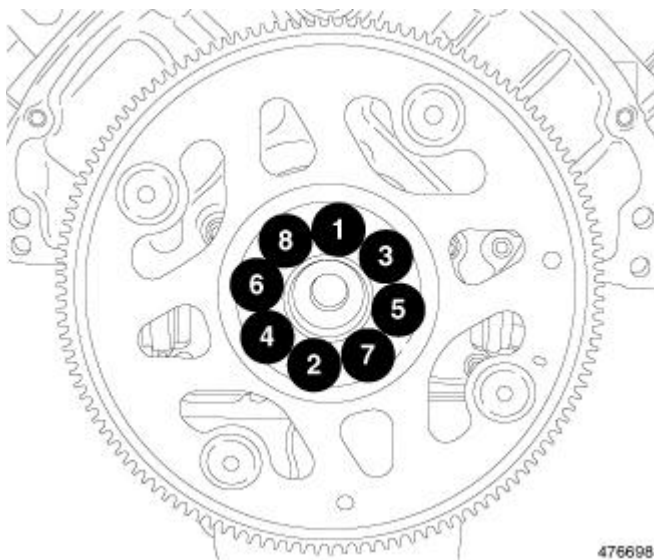

Fig. 169: Flexplate Retaining Bolt Removal & Tightening Sequence
2. Using the sequence shown in illustration, remove the flexplate retaining bolts. See **Fig. 169**.